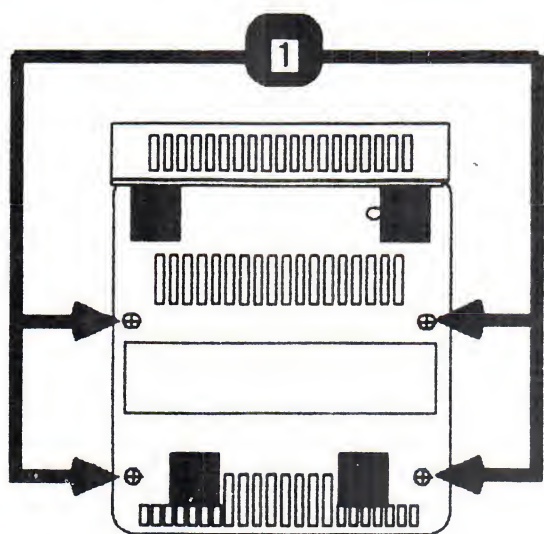

FIGURE 1
3. Turn the UniDisk upside down and remove the four Phillips screws (Figure 1, #1).
6. Turn the UniDisk upside down and replace the four Phillips screws (Figure 1, #1).